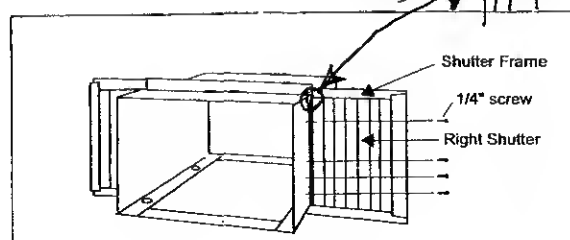

Fig 7
Slide the shutters into the top and bottom channels as shown in (Fig. 7). The shutters are identified (on each frame) as "left" or "right". Attach the shutters to the cabinet using (4) 1/4" screws on each side